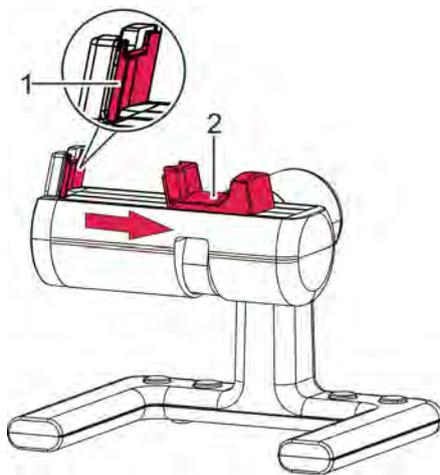

Fig. 22: Microphone clamping jaw
1. ➔ Pull the clamping jaw (Fig. 22/2) outwards.
2. ➔ Place the watch onto the clamping area so that the crown of the watch is positioned against the signal sensor (Fig. 22/1). Carefully close the clamping jaw.
**3.** Place the clockwork onto the clamping area so that the plate is positioned above the signal sensor (Fig. 22/1). Carefully close the clamping jaw.